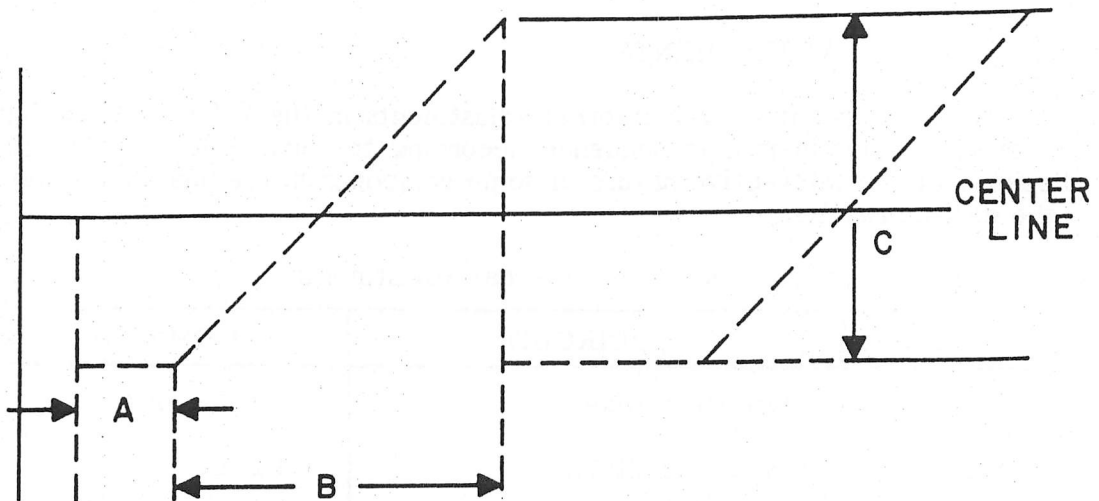

Figure 4-5. Horizontal Sweep Signal
5. Verify that the horizontal sweep signal displayed on the oscilloscope is the same as shown in Figure 4-5. Letters A, B, and C in the figure indicate references for the separate time functions of the displayed sweep signal. Use dc coupling on the oscilloscope and position the horizontal trace on center line for grounded signal input reference.